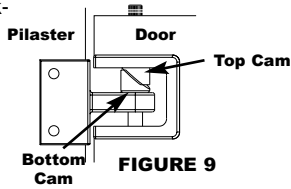

FIGURE 9
- Connect the pilaster portions to the door portions of hinges by inserting the hinge pin through the top and bottom of the door until the pin is flush with the door edge. See figure 9.